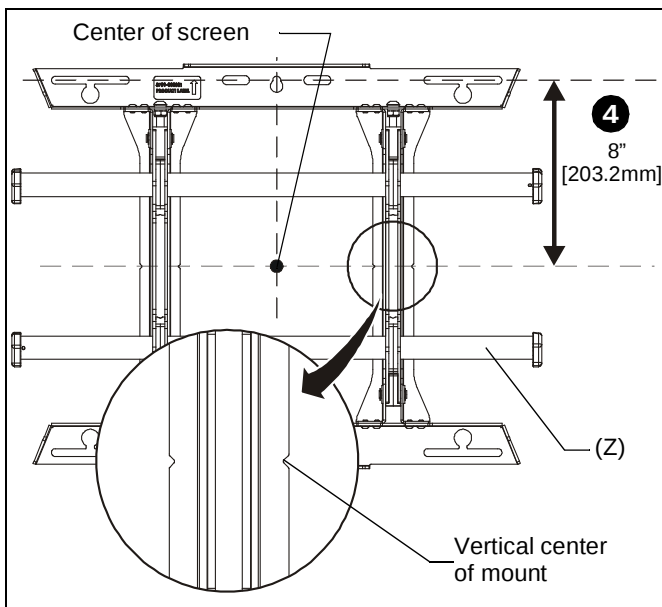

Figure 1
3. Line up the notches on mount (Z) with center of screen marking to determine vertical center. (See Figure 1)
4. Measure up 8" (203.2mm) from the center point to mark location of the upper mounting slots. (See Figure 1)
2. Line up the notches on mount (Z) with center of screen marking to determine vertical center. (See Figure 1)
3. Measure up 8" (203.2mm) from the center point to mark location of the upper mounting slots. (See Figure 1)